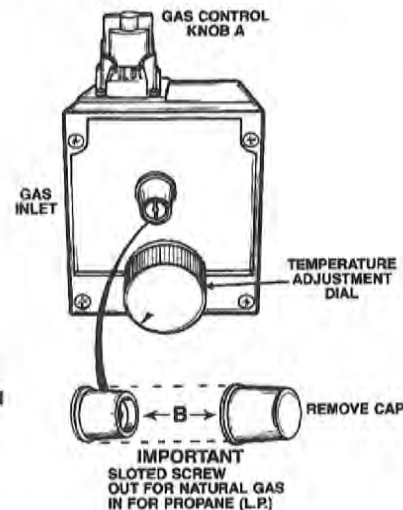

Figure 1
14. Propane (L. P.) /Natural Control Adjustment Procedure. Place slotted screwdriver in slot "B" for Propane (L. P.). See Figure 1. Push and turn counterclockwise (↺) to stop.